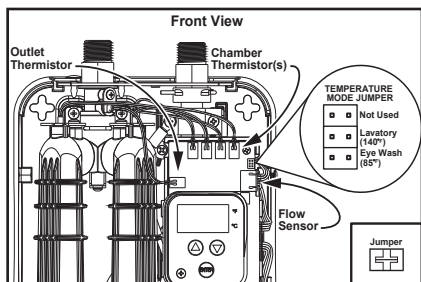

Figure 47 - Thermistors, flow sensor, and jumper.
- 4 Disconnect the chamber thermistor(s), outlet thermistor, and flow sensor from the control board. If jumper is present on the temperature mode, remove and place on new control board for the correct mode. See Figure 47.